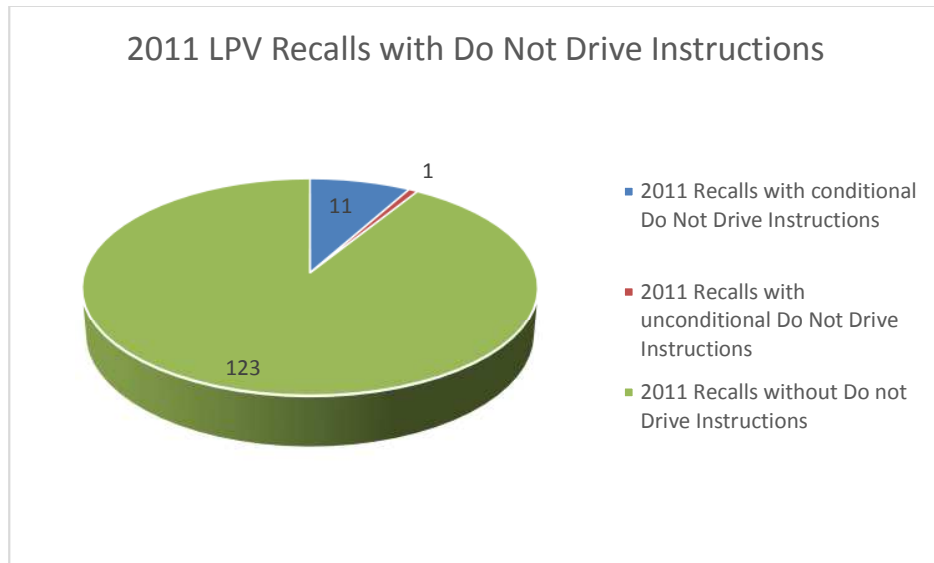

Figure 3. 2011 LPV Recalls with Do Not Drive Instructions
Twelve (12) of the one hundred thirty five (135) 2011 LPV recalls contained DND instructions. Eleven (11) of those DND instructions were conditional upon owner detection of a defect (if you notice fluid leaks, or loss of power, or your engine stalls, etc..., then do not drive the vehicle). Only one recall (11v007) had an unconditional “do not drive” vehicle recommendation. In the graph in figure 3 this single recall is counted and categorized as a recall with “unconditional” DND instructions. For the text detailing the DND instructions for the 2011 LPV recalls see Appendix A-3.